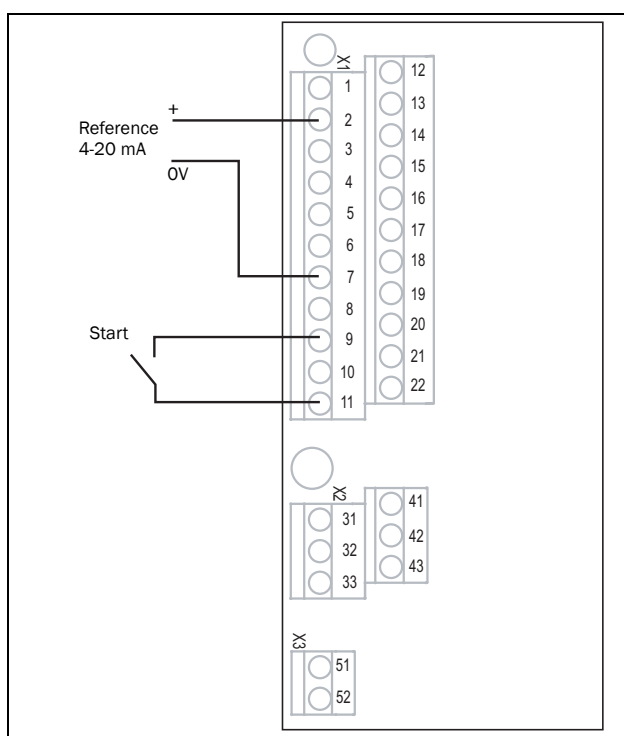

Fig. 37 Wiring
3. Connect a reference value between terminals 7 (Common) and 2 (AnIn 1) as in Fig. 37.
4. Connect an external start button between terminal 11 (+24 VDC) and 9 (DigIn2, RUNR) as in Fig. 37.
14. Connect digital and analogue inputs/outputs as in Fig. 37.